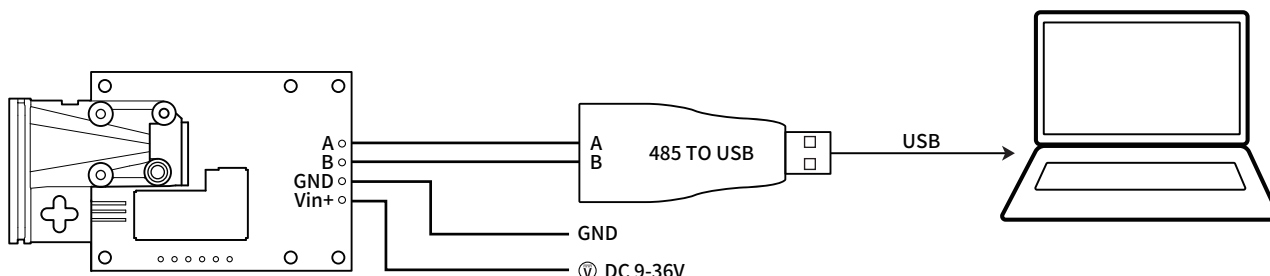

Figure 1. L2 wiring diagram
1. As shown in Figure 1, connect the laser sensor's A to the 485 to USB converter's A (some manufacturer label it as T/R+), and the laser sensor's B to the 485 to USB converter's B (or T/R-);